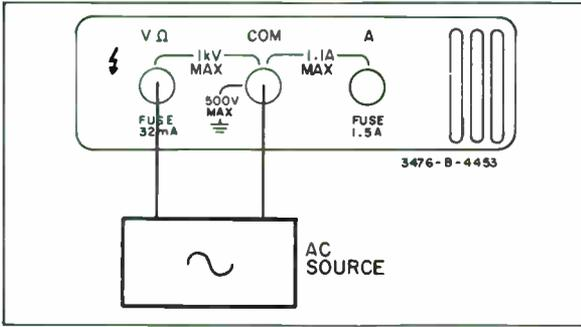

Figure 3-3. AC Voltage Measurement.
- DC/AC (--- ~) ~ (IN)
- VOLTS (V) (IN)
- AMPS (A) AND kΩ (OUT)
3-13. Connect test leads from the Multimeter V Ω (HI) and COM (LOW) connectors to the voltage under test as shown in Figure 3-3.